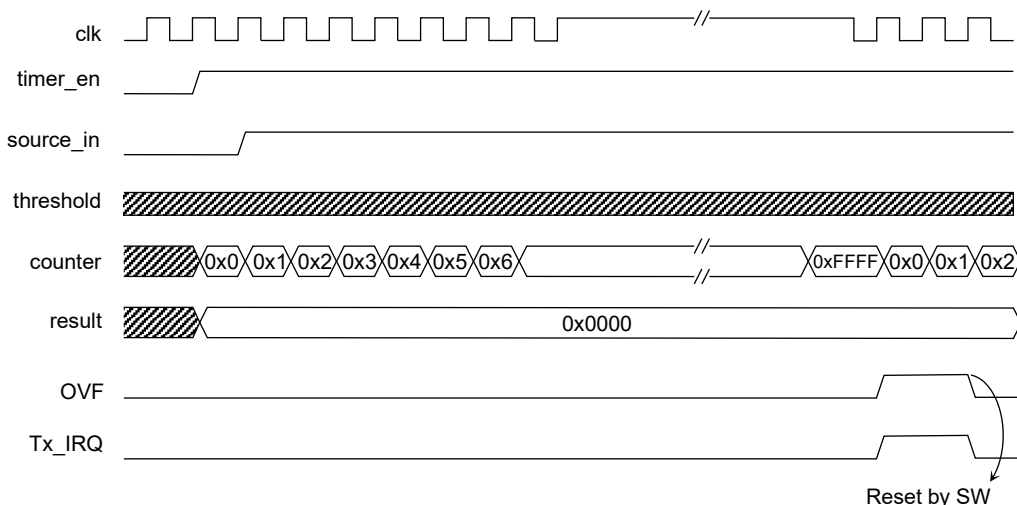

Figure 1-12: Overflow event in high-time period measurement mode (`TMODE = 0x0`)
- In measurement modes (`TMODE = 0x0 TO 0x3`), this bit indicates if the counter value is greater than the maximum possible number (`0xFFFF`). Figure 1-12 shows an overflow scenario in high-time measurement mode (`TMODE = 0x0`).